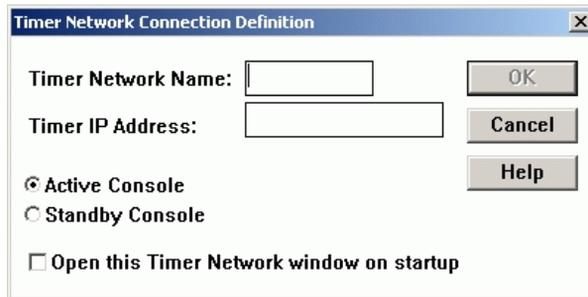

Figure 35 Timer Network Connection Definition Dialog Box
4. Click *New Timer Network*. The *Timer Network Connection Definition* dialog box displays (Figure 35).